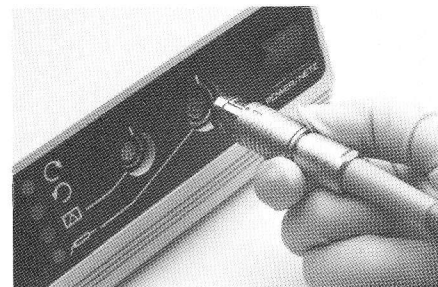

Figure 9
1. Align connector orientation marks. See Figure 9.